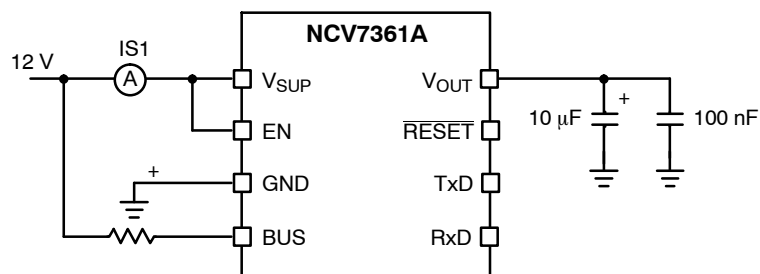

Figure 6. Test Circuit for Supply Current ISNL
4. See Figure 6 for test setup.